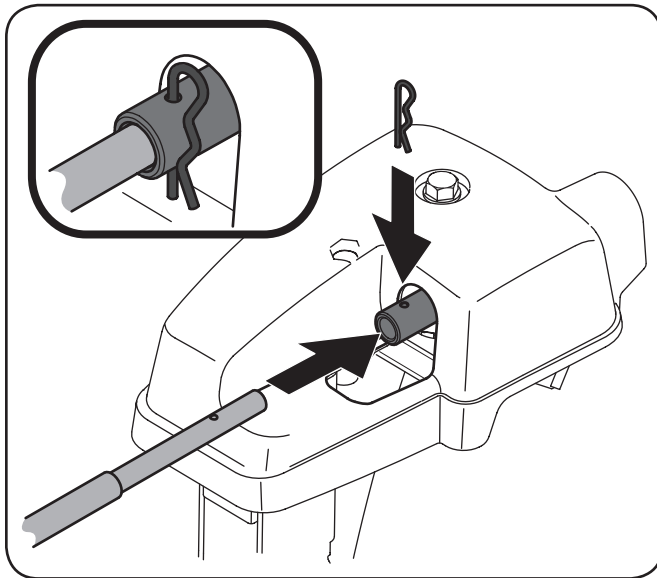

Figure 3-17
- Insert flex shaft removed earlier from the lower handle into rear of the chute directional control head. Secure the flex shaft to the chute control head with the hairpin clip removed earlier. See Figure 3-17 .